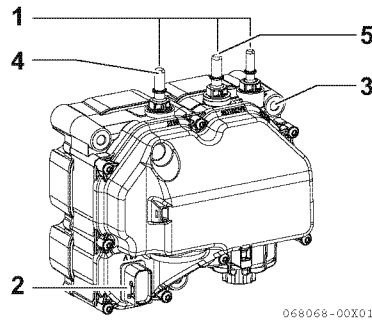

Fig.25-50
- 1 - When replacing the SM, remove the hoses from the urea water piping connectors (3 places) (1, Fig.25-50). Be careful of the urea water flowing out when removing the hoses. Remove the couplers of the electric wiring connectors (2, Fig.25-50), and loosen the mounting bolts (3 pcs.) (3, Fig.25-50) of the SM, and then remove the SM.
- 3 - Attach the electric wiring couplers, attach the urea water piping hoses. Be careful not to connect correct connectors, back-flow connector (4, Fig.25-50) and inlet connector (5, Fig.25-50).